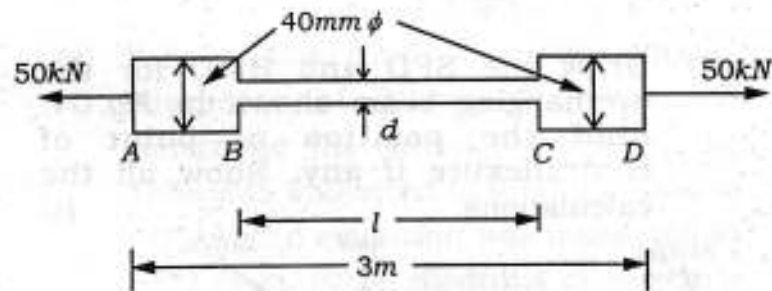

Fig. 02
4. An alloy circular bar $ABCD$, 3m long is subjected to a tensile load of 50kN as shown in Fig. 02. If the stress in the middle portion BC is not to exceed 150MPa , then what should be its diameter? Also find the length of the middle section, if the total extension of the bar should not exceed by 3mm . Take E as 100GPa . 20